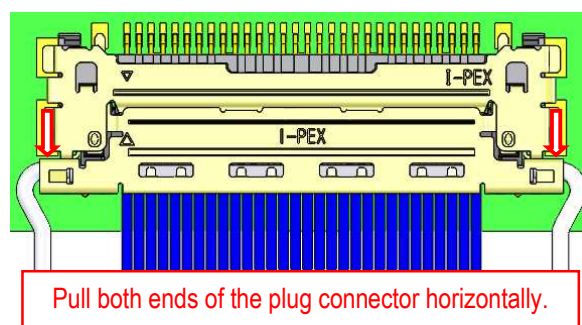

Fig.14
- ② When un-mating, pull both sides of the plug connector horizontally as shown in Fig.14.